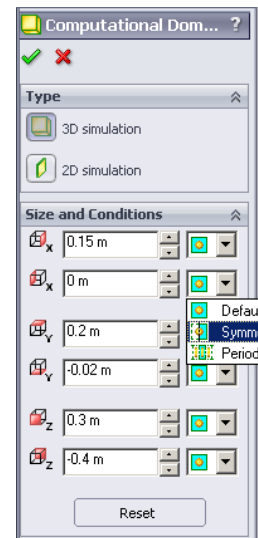

Fig. 11
Step 3. Set At X min to Symmetry, Fig. 11.